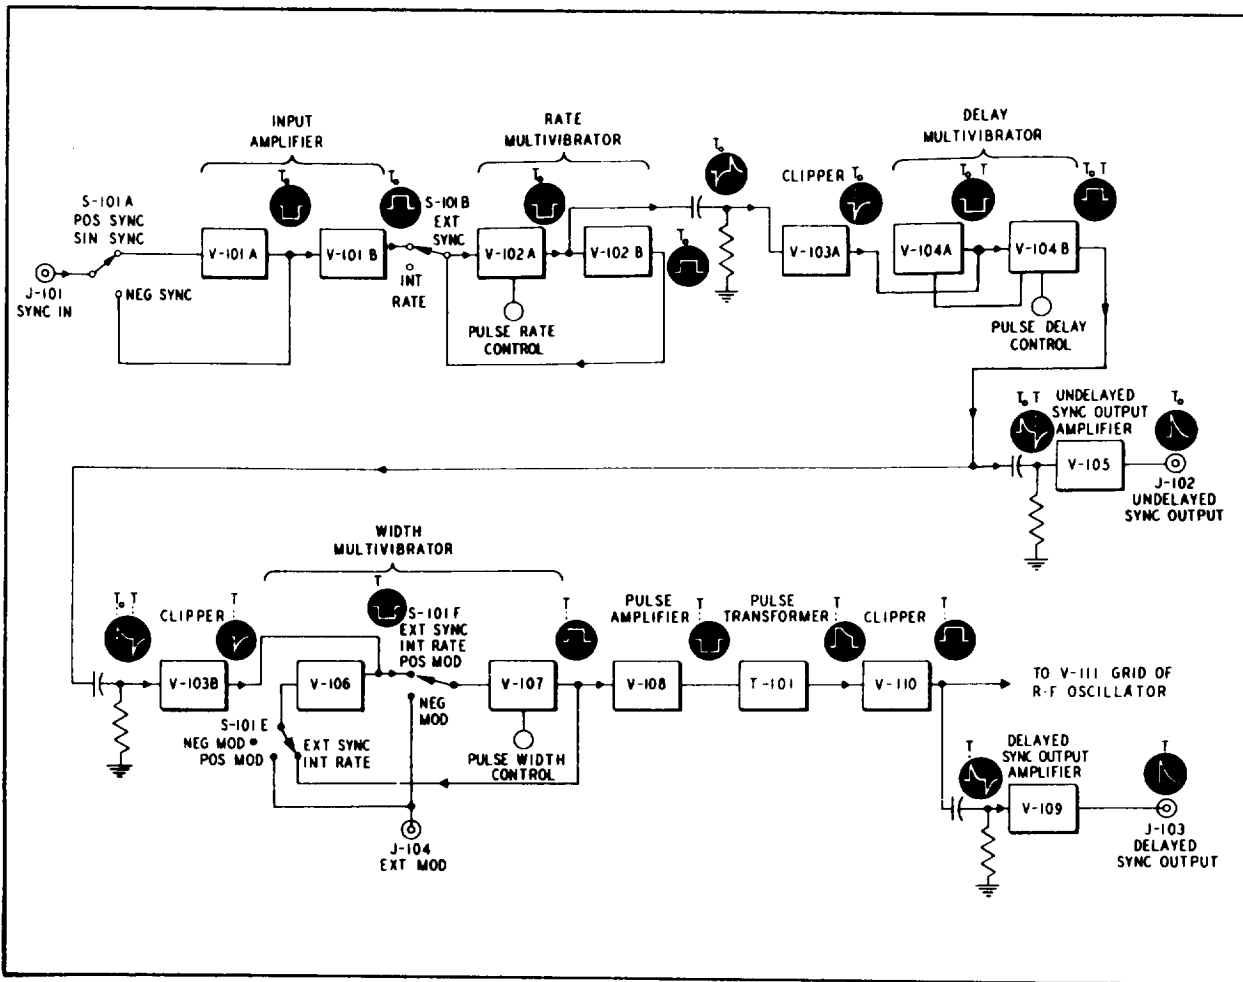

Figure 3-4. Signal Generator TS-419/U, Modulator and Synchronizer, Block Diagram.
(1) The modulator and synchronizer includes tube V-101 and V-110. The basic function of the modulator is to generate a positive video pulse of desired characteristics and to apply that pulse to the focusing grid of the reflex klystron V-111, so that V-111 will oscillate for the duration of the pulse.
(2) A block diagram of the modulator and synchronizer is shown in figure 3-4. The rate multivibrator V-102 determines the repetition rate of the pulses generated by the modulator. This multivibrator can be synchronized with external positive or negative pulses, or with sine-wave signals. Also, it can generate pulses as a result of its operating in a free-running condition. In order to trigger the multivibrator from sine waves, the sine waves are converted to square waves in the input amplifier V-101. An RC differentiator at the output of the amplifier converts the square waves to short pulses. The resulting waveforms are shown in the block diagram, figure 3-4.
(3) The output of the rate multivibrator is a negative pulse, the leading edge of which is coincident with the leading edge of the synchronizing voltage as shown by time T_0 . This negative pulse is differentiated by an RC network, giving a short negative pulse at time T_0 and a short positive pulse at a time coincident with the